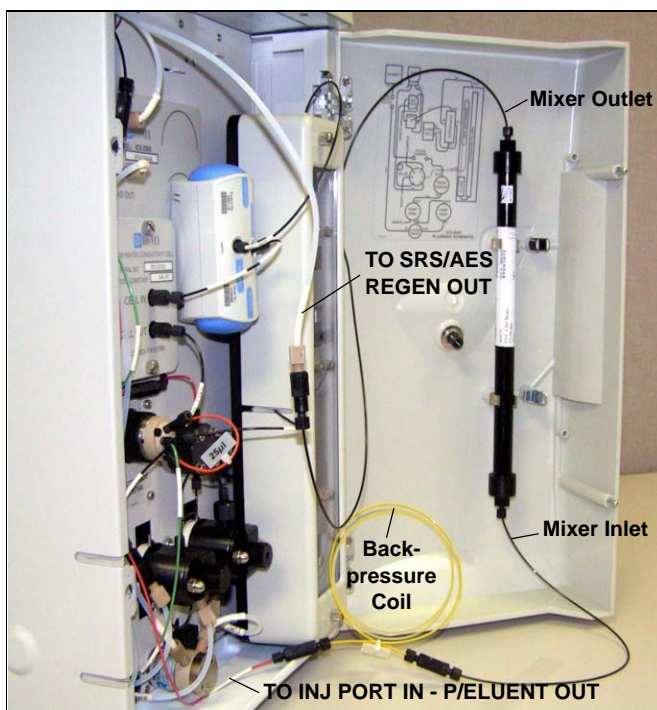

Figure 79. Mixer Connected Directly to Eluent Generator Outlet for Initial Filling
4. Disconnect the outlet of the yellow PEEK backpressure coil from the **TO SRS/AES REGEN OUT** line and then connect the backpressure coil to the mixer inlet (see Figure 79).